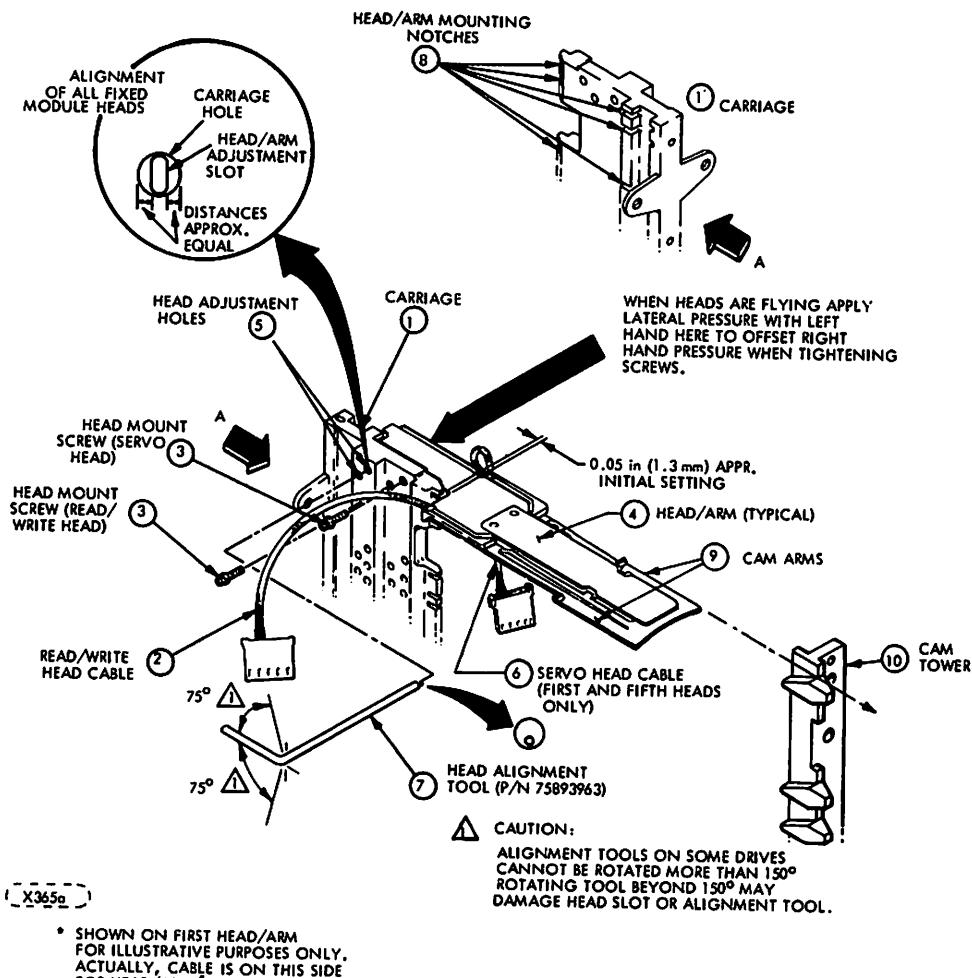

FIGURE 6-24. HEAD/ARM REMOVAL AND REPLACEMENT AND ALIGNMENT
In general the head alignment is accomplished on all heads by first mechanically aligning each of the fixed disk module heads when the module is first installed. Figure 6-24 shows how the oblong slot in the side of the head arm is "eyeball" aligned in the center of the round hole 5 in the carriage. An RTZ command then positions the fixed servo head on track zero, and with that carriage position as a reference the cartridge servo head is aligned. Once the cartridge servo head is aligned it is used as a reference for aligning the cartridge data head.
Use only head alignment tool P/N 75893963. (7 in Figure 6-24). Use of a different tool can cause permanent damage to head/arm and carriage.
Use care when using the head alignment tool (7) (refer to Figure 6-24). The tool should slip easily through the alignment hole (in the carriage) and into the slot in the head/arm. When adjusting the head, the tool should turn freely in the hole. If anything more than a small amount of force is required to adjust the head/arm, the tool is probably binding in the hole (in the carriage).
12. Center the alignment slot of all heads (read/write data and servo) associated with the fixed disk module (see (5) in Figure 6-24).
While torquing the head clamping screws (3) (Figure 6-24) use only straight allen wrench and keep it as perfectly aligned as possible with head mounting screw. If care is not taken during this operation head/arm may be pushed out of alignment.
13. Torque all fixed pack head clamping screws (3) to $12 \pm 1/2$ lbf-in (1.26 to 1.38 Nm) while observing the centering (5).
Whenever the heads are adjusted and the clamping screws are turned while the heads are flying, extreme care should be taken so as not to move the carriage assembly in a lateral direction (right angles to the normal direction of head movement). THE RESULTANT FORCE CAN ROTATE THE CARRIAGE ASSEMBLY AND CAUSE SEVERE DAMAGE TO THE HEADS AND DISKS. This motion can be prevented by applying sufficient counter force on the opposite side of the carriage as shown by the large arrow in Figure 6-24.